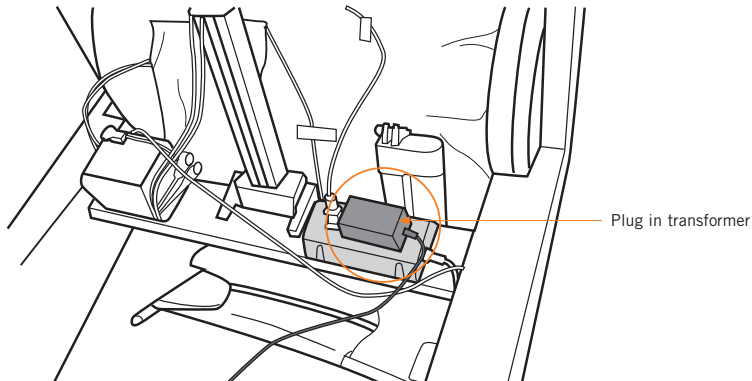

Fig.5
6. Plug the transformer into the right-hand power hub receptacle (Fig.5).